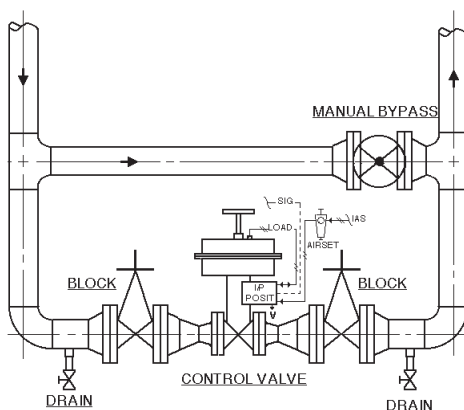

Figure 1: Typical Control Valve Station
1. It is recommended that the control valve unit be installed with a double-block and bypass as indicated in Figure 1. This arrangement is recommended especially where maintenance will be done on the valve body while still installed in the pipeline.
2. Recommend startup to be in “manual” mode. This procedure assumes double block (isolation) and bypass valves for the “control valve station” per Figure 1.